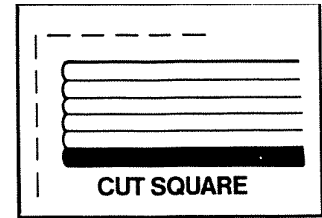

FIGURE 3
- (A) Cut the end of the IW-6R cable off square. See Figure 3.